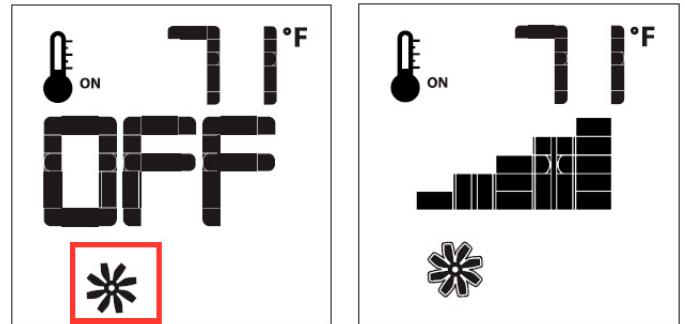

Figure 25l. Fan Speed Control
The fireplace is equipped with optional hot air circulating fans. The speed of the fans can be controlled by the Proflame system. The fan speed can be adjusted through six (6) speeds. To activate this function use the Mode Key, see Figure 25, to index to the fan control icon, see Figure 25l. Use the Up/Down Arrow Keys to turn on, off, or adjust the fan speed. A single "beep" will confirm reception of the command.